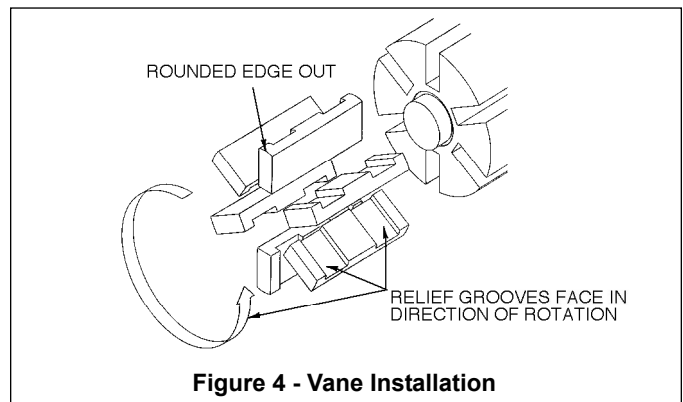

Figure 4 - Vane Installation
3. Turn the shaft by hand until a vane (14) comes to the top (12 o'clock) position of the rotor. Remove the vane.
4. Install a new vane (14), ensuring that the rounded edge is UP, and the relief grooves are facing towards the direction of rotation. See Figure 4.
5. Remove the vanes (14) and push rods (77) (if equipped) from the rotor and shaft assembly (13). Inspect for wear and damage, and replace as follows:
- a. Insert the vanes (14) into the bottom rotor slots with the relief grooves facing in the direction of pump rotation, and with the rounded edges outward. See Figure 4.